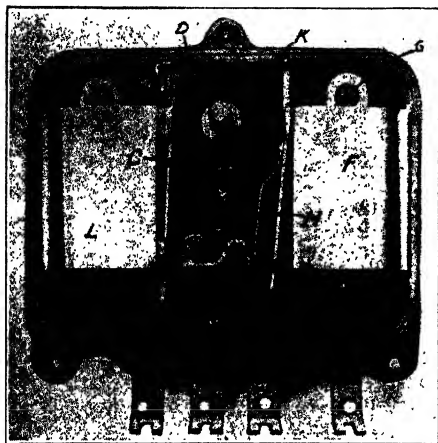
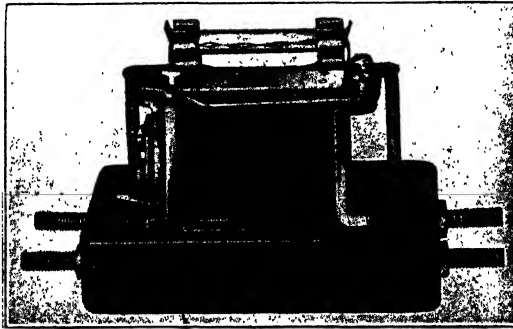

Fig. 149. Ward-Leonard Current Controller and Automatic Cut-Out
Fig. 153. Remy Reverse-Current Relay
**Independent Controllers.** The Ward-Leonard controller (constant-current), Fig. 149, is typical of the external or independent controlling devices. In principle, this is the same as the Splitdorf and many others, the chief distinctions between the types usually being found in their construction. Referring to Fig. 149, the coil *F*,
*Ward-Leonard Type.* The Ward-Leonard, Fig. 149, is typical in that it clearly illustrates the principles upon which most of these devices are based, though their construction varies widely, as will be noted by Fig. 153. The switch mechanism is shown at the left of Fig. 149. In this device *A* is the coil, *B* the magnet core, *C* the movable arm, and *DD'* the contacts. The dynamo generates sufficient voltage at a car speed of approximately 7 miles per hour to attract *C* and hold it in position, closing the battery circuit through *DD'* and charging at any speed above starting speed.